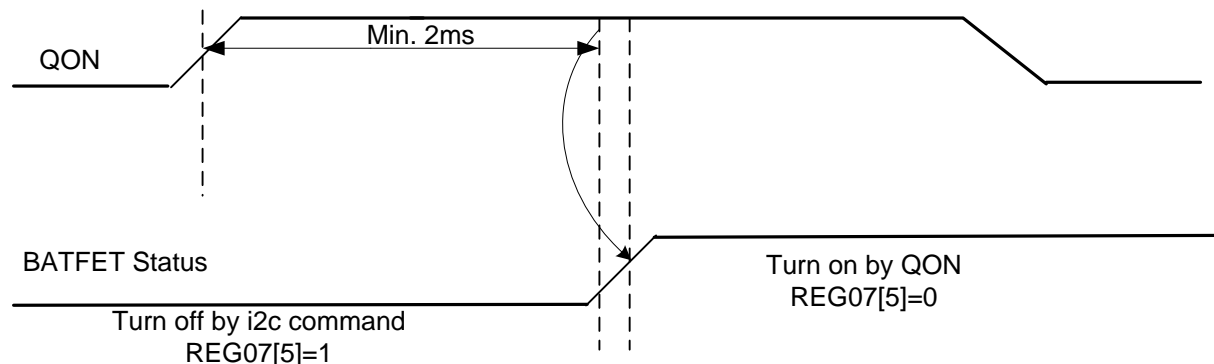

Figure 21. QON Timing
5. A logic low to high transition on QON pin (refer to Figure 21 for detail timing)